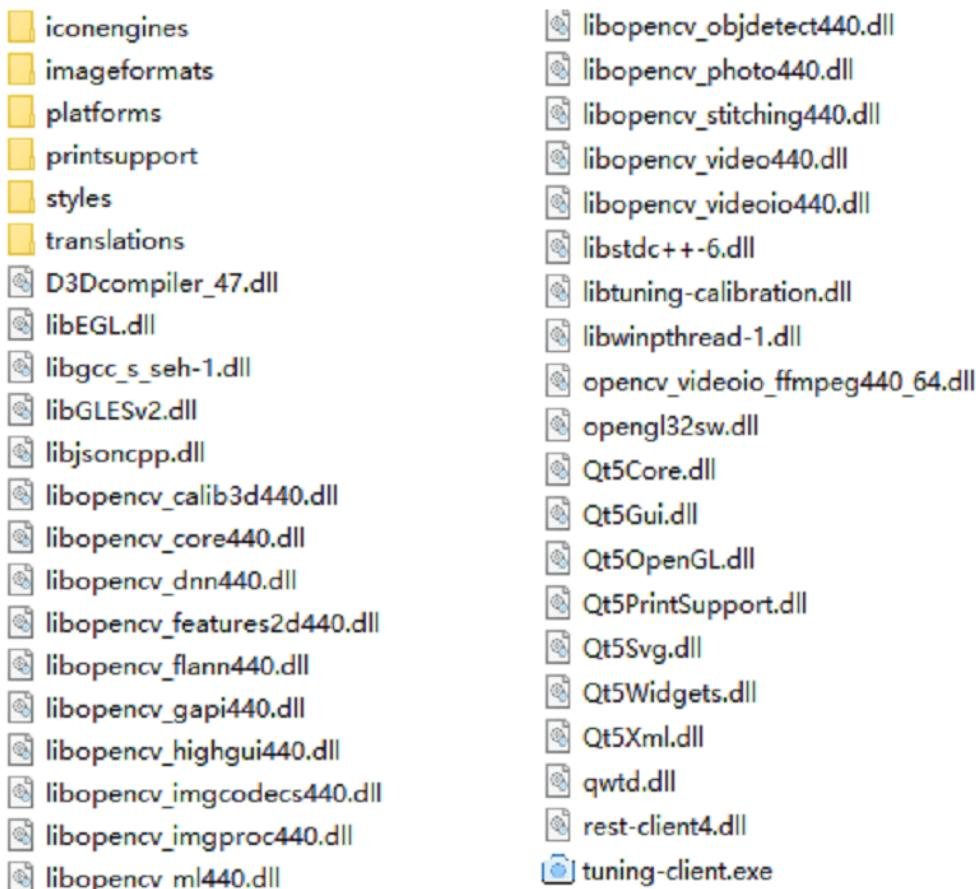

Figure 2. Example of tuning-client directory and associated files
- The tuning-client (running on Windows x86/x64) and associated files are shown in Figure 2.